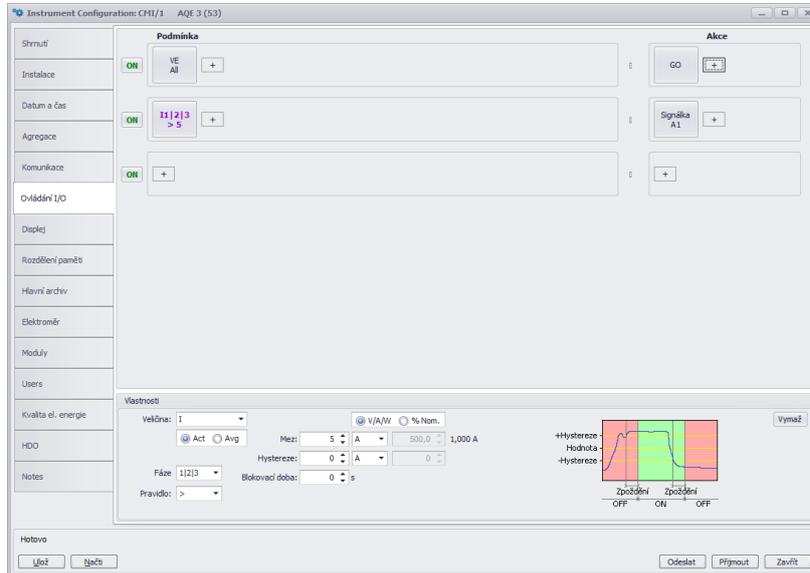

Figure 14: ENVIS.Daq - configuration of programmable inputs and outputs behavior.
2.4.5 I/O Management (fig. 14)